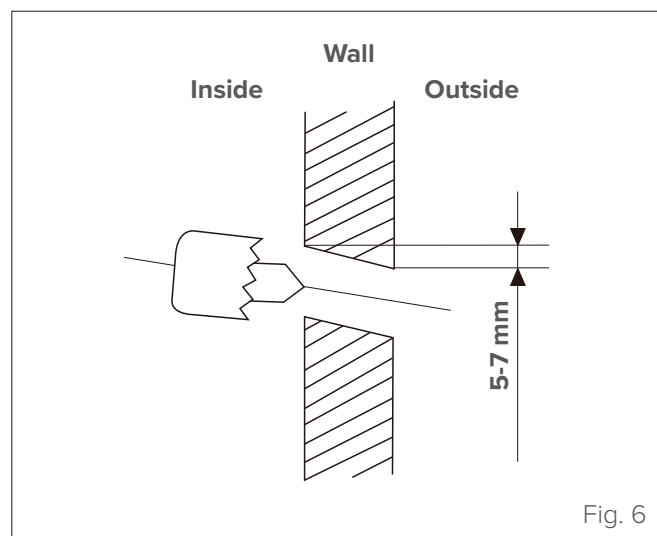

Fig. 6
- 1 Determine hole position according to the position of the mounting plate. To help you choose the optimal position, refer to point “Mounting plate dimensions”. The hole in the wall should have a minimum diameter of 65 mm and a slight downward slope to facilitate drainage (see “Fig. 6”).